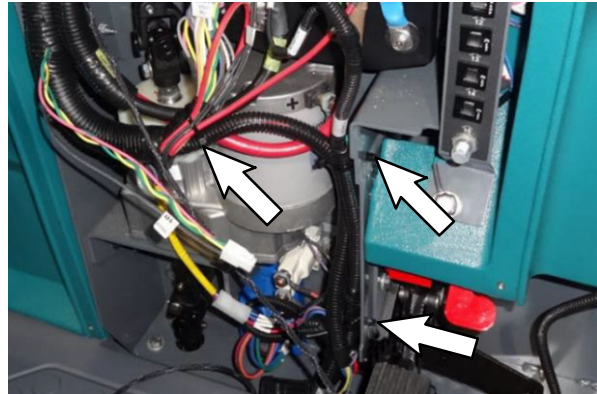

FIG. 40
45. Use several cable ties to secure the power steering harness (19) to the main wire harness, away from any moving steering components. (Fig.40)